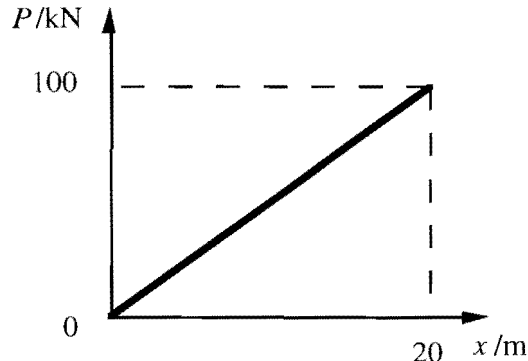

Figure 6
9. On landing, an aircraft of mass  $5 \text{ Mg}$  (i.e.  $5000 \text{ kg}$ ) is travelling horizontally at a speed of  $20 \text{ ms}^{-1}$ . It is then brought to rest partly by the action of a constant frictional force of  $55 \text{ kN}$  and partly by the action of a system of wires which exert a restoring force  $P$  which varies with the displaced distance  $x$  as shown in Fig. 6.